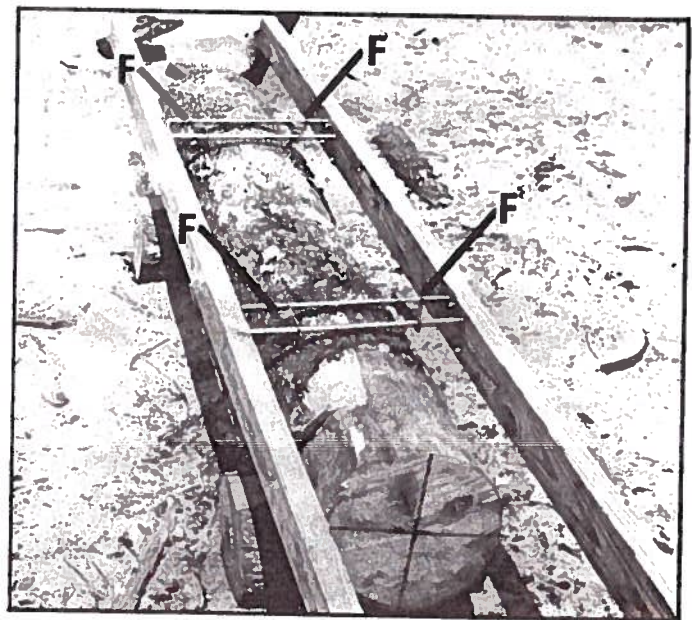

Fig. 41
5 Position the 2x4's and brackets "guide rail assembly" on the log, as shown in Fig. 41. Drive four spikes (F) into the log. NOTE: The 2"x4" guide rails must extend at least 6" beyond both ends of the log. An extra long log will require more than two brackets.